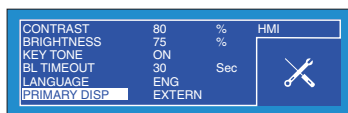

Figure 4.12 - HMI set-up menu
Interchanging the primary and secondary displays is effected from the HMI menu e.g. see Figure 4.12.
1. From the SETTINGS menu, select HMI. An HMI menu is shown in Figure 4.12.